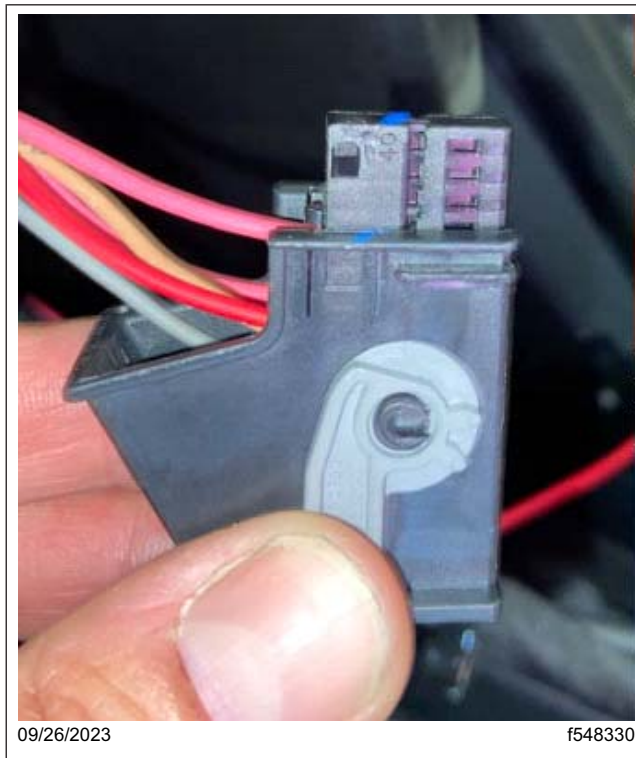

Fig. 62, Inserting the Black Terminal Bank into the XMC2 X2 Connector
- 13.16 Insert the black terminal bank back into the XMC2 X2 connector, as shown in Fig. 62 .